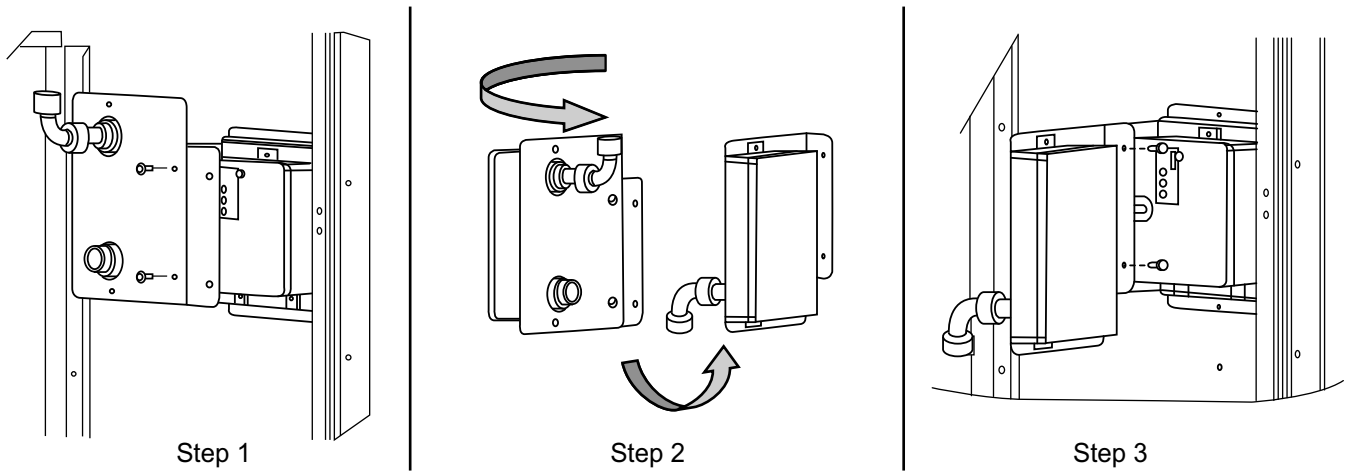

Fig. 79 - Completing Installation of Return Air Smoke Sensor
1. Unscrew the two screws holding the Return Air Smoke Detector assembly. See Fig. 79, Step 1. Save the screws.
2. Turn the assembly 90 degrees and then rotate end to end. Make sure that the elbow fitting is pointing down. See Fig. 79, Step 2.
3. Screw the sensor and detector plate into its operating position using screws from Step 1. See Fig. 79, Step 3.